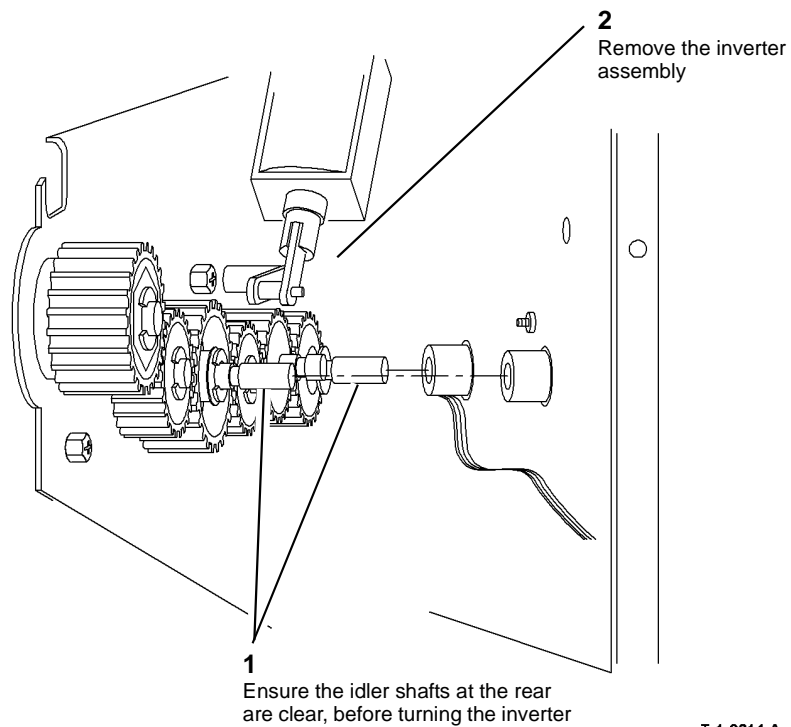

Figure 5 Remove inverter assembly
9. Remove the inverter assembly through the right hand side of the machine, Figure 5.
NOTE: When the idler shafts are located, Figure 5. Rotate knob 3C clockwise to engage the drives coupling between the inverter and the drives plate. This will also allow the inverter to locate into the base of the machine, Figure 4.